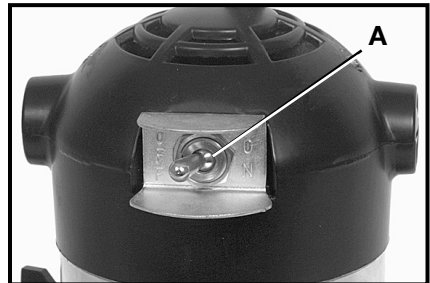

Fig. 4
Start and stop the motor by setting the toggle switch (A) Fig. 4 to the "ON" or "OFF" position.